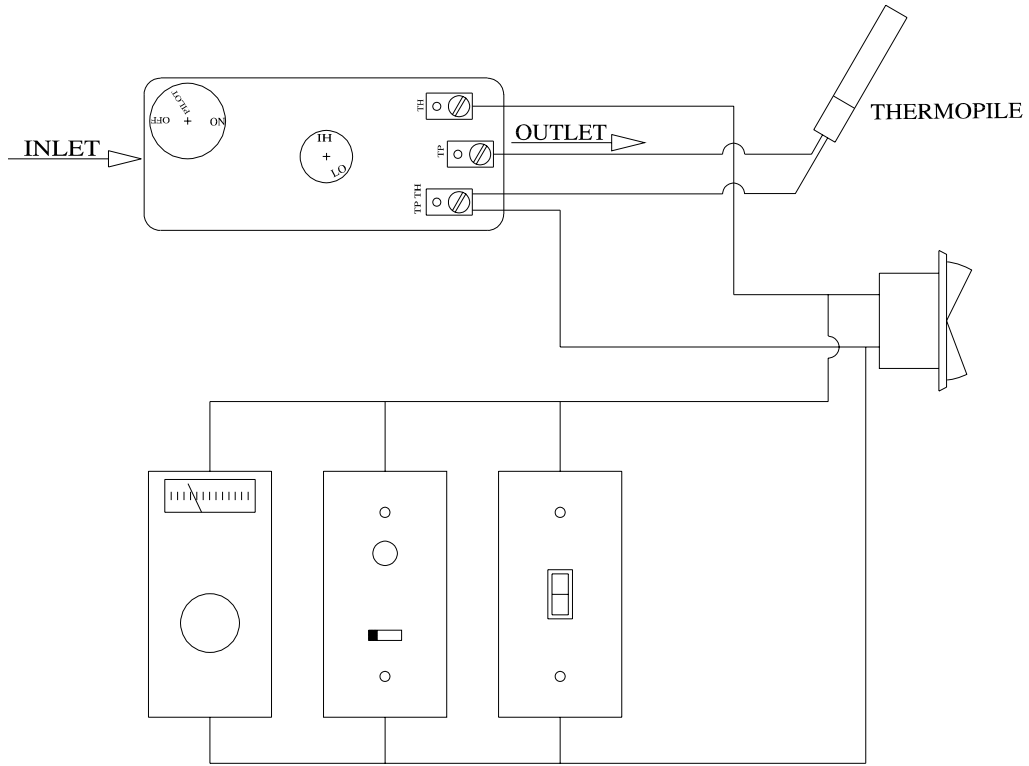
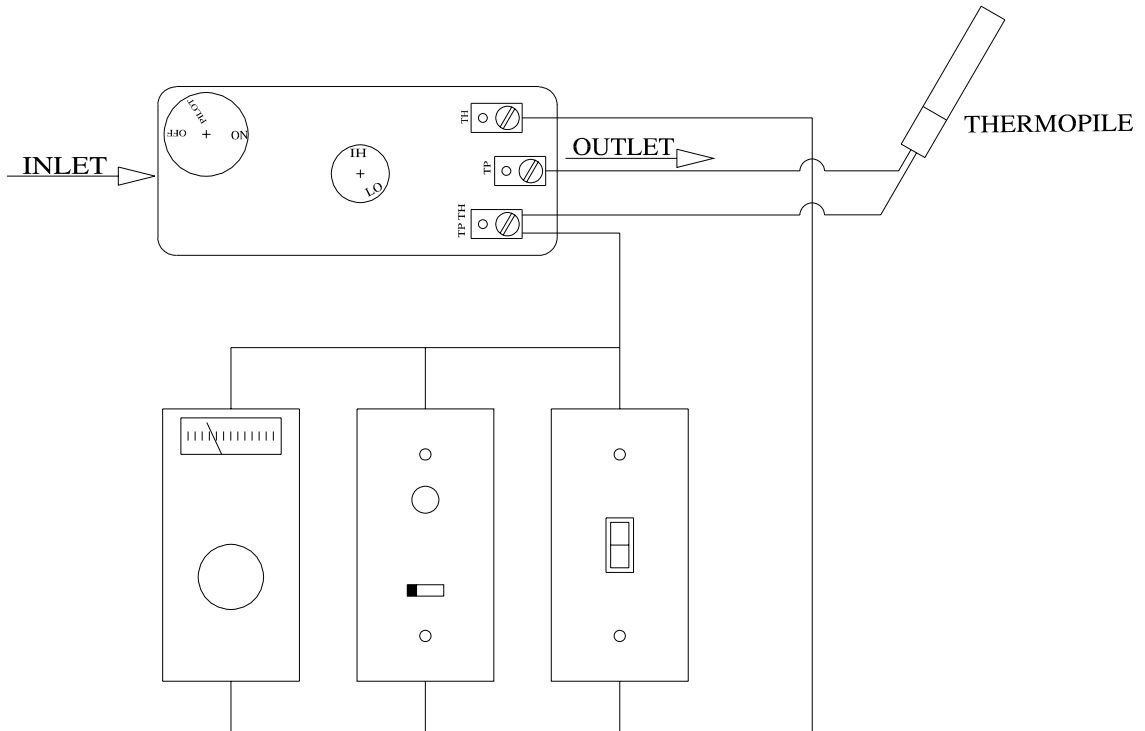

Figure 11a
Figure 11b
1. Mount the thermostat or wall switch in the desired location and run "**two conductor thermostat wire**" to the burner control switch (Figure 11a). To bypass the burner control switch, run the wires directly to the gas valve (Figure 11b).